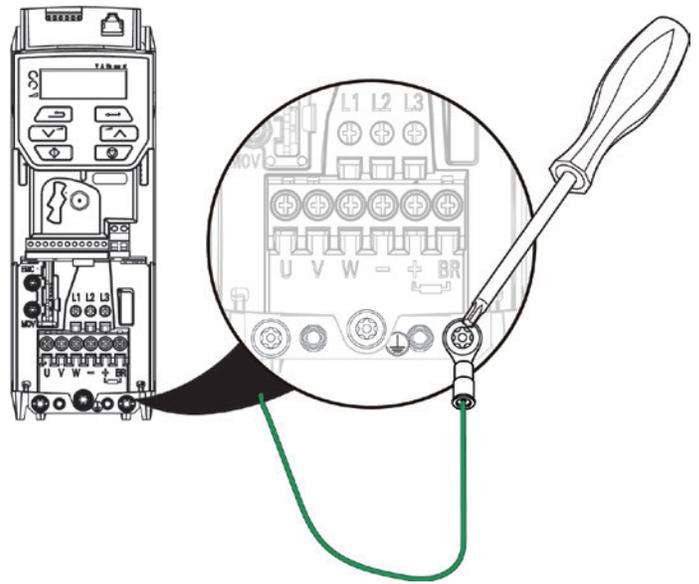

Figure 10. Connect Ground Wire to VFD Terminal Strip
6. Use Torx driver to connect ground wire to ground terminal strip and grounding point. See Figure 10.